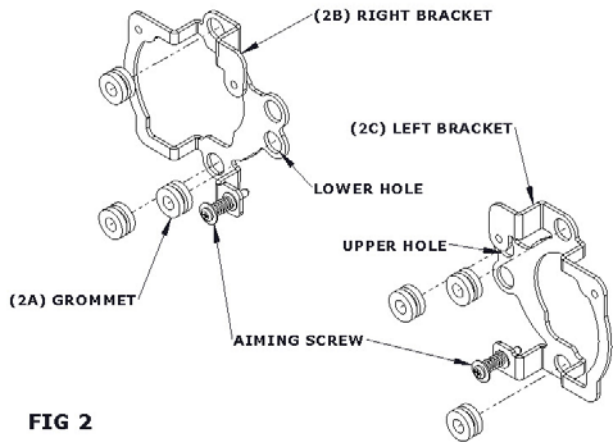

FIG 2
6. INSTALL THE GROMMETS (2A) IN THE HOLES ON THE RIGHT (2B) AND LEFT (2C) MOUNTING BRACKETS AS SHOWN IN FIGURE 2.
16. BEFORE INSTALLING ALL REMOVED COMPONENTS BE CERTAIN THAT THE LIGHTS WORK AND ARE AIMED CORRECTLY. TO CHECK THE AIM, PARK THE BIKE ON A LEVEL SURFACE ABOUT 16 FEET FROM A WALL OR OTHER VERTICAL SURFACE. MEASURE THE DISTANCE FROM THE FLOOR TO THE CENTER OF THE FOG LIGHT (APPROXIMATELY 16 INCHES). THE TOP EDGE OF THE LIGHT PATTERN ON THE WALL SHOULD BE THE SAME DISTANCE TO THE FLOOR AS THE FOG LAMP MOUNTING HEIGHT. IF THE LIGHTS NEED ADJUSTMENT YOU CAN SCREW IN OR OUT THE ADJUSTMENT SCREW ON EACH BRACKET. SEE FIGURE 2 FOR THE LOCATION OF THE AIMING ADJUSTMENT SCREWS.